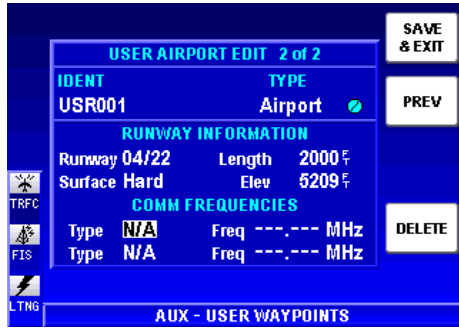

Figure 1-88
9. Two communication frequencies may be entered to provide QuickTune™ capability. Use the Joystick to place the cursor in the desired comm **Type** field as shown in Figure 1-88.